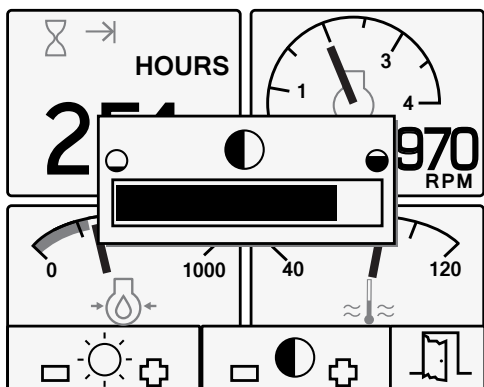

Figure 31. Backlight and Contrast
1. When no button bar is displayed, press button 5 to access the backlight and contrast menu bar (Figure 31).